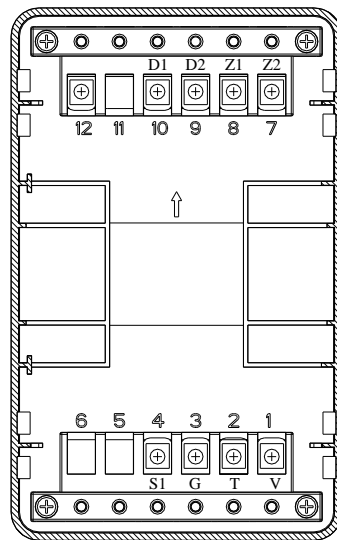

Fig. 3 I-9401N Base box
4. The base box of I-9401N is shown in Fig. 3, please note direction when installing.